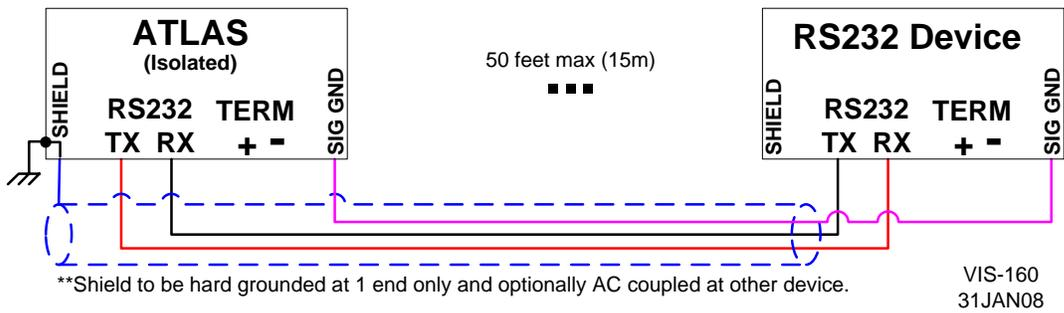

Figure 4-21. Wiring Example–RS-232 Interface to the SmartCore CPU A5200 Board
- **RS-232.** Refer to Figure 4-21 for RS-232 wiring. The transmit data (TXD), receive data (RXD), and signal ground (SIG GND) must be properly connected as shown. In addition the shield (SHLD) should be connected in at least one location.